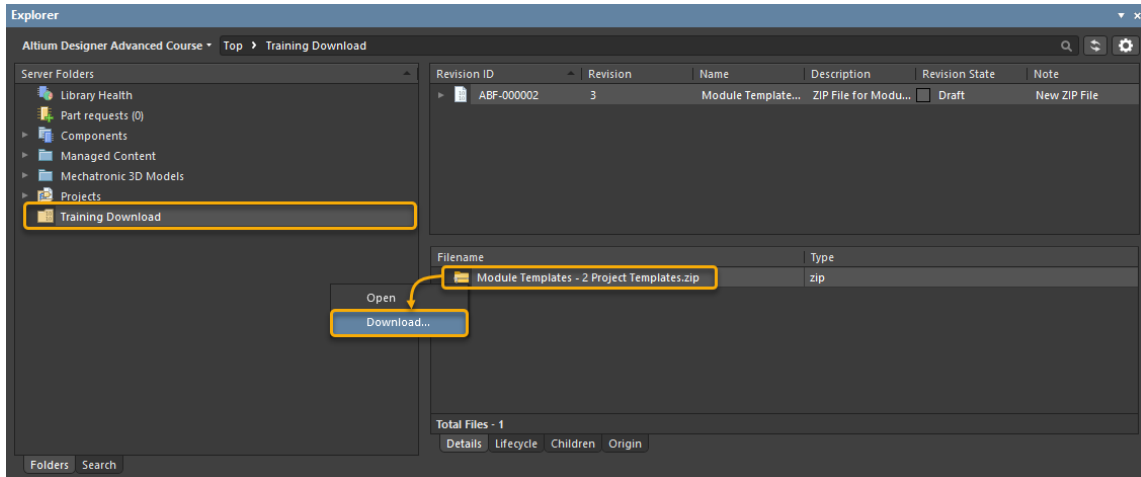

Figure 1. Training Download folder with a predefined file
3. Navigate to the folder *Training Download*, Figure 1.